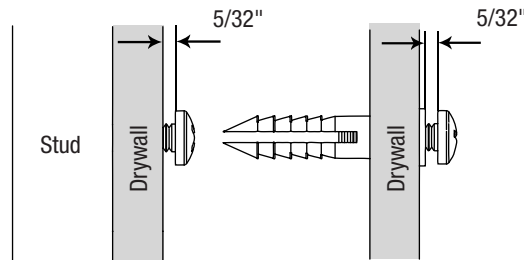

Figure 2
STEP 2: Pre-drill pilot holes with a 3/32" drill bit in the marked locations. If a stud is present, insert and fasten the screw leaving a 5/32" gap. If no stud is present, use a 3/16" drill bit to enlarge the 3/32" hole. Insert the anchor and fasten the screw into the anchor leaving a 5/32" gap, as shown in **Figure 2**.